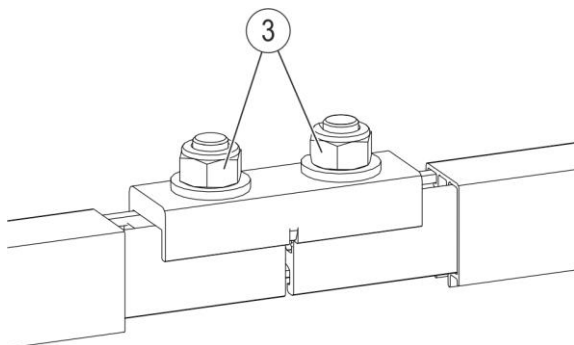

Fig. 78: Tighten nuts M10/M12
- Mount the connector (Pos.1) with notch cable lugs (Pos. 5), as described in Section 6.4.3.4, with the prescribed torque (SW 13, torque wrench **10 Nm** for stainless steel **nuts**, **12 Nm** for galvanized nuts) (see Fig. 78).